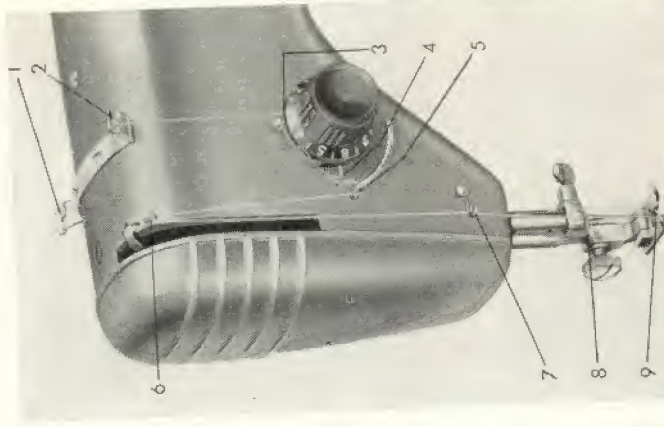

Fig. 12.
Bring the thread take-up lever (6, Fig. 12) to its highest position by turning the hand wheel towards you. Put a spool of thread on one of the spool pins (41 and 42, Fig. 2).
Pass thread through the thread guides (1 and 2, Fig. 12), then round from right to left between the innermost tension discs (3), over the crotch of the thread take-up spring (4), under the slack thread regulator (5) and up through one of the eyes in the thread take-up lever (6). From the take-up lever take the thread down through thread guide (7) and the guide on the needle clamp (8) and thread it through the needle from the front through the needle point, pulling out 3 or 4 inches behind.
The tension of the upper thread is regulated by the pressure of the tension discs (3, Fig. 12) against each other. This pressure is adjusted by means of a knob calibrated from 0 to 9 with 0 as lowest